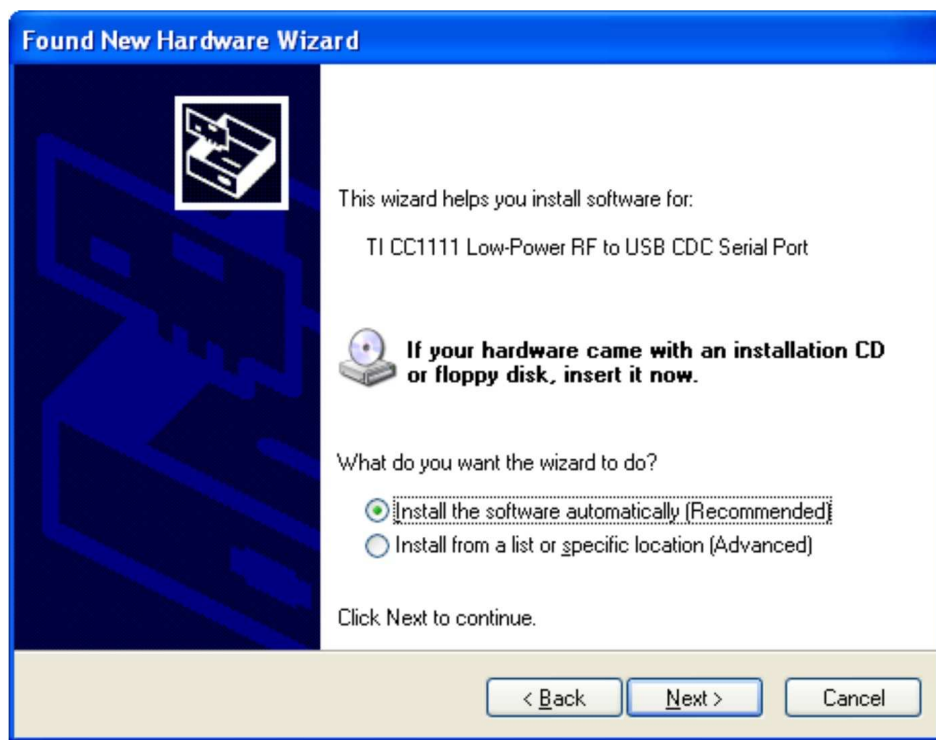

Figure B-5. Automatic Driver installation
6. Select *Install the software automatically* in next dialog (see Figure B-5).